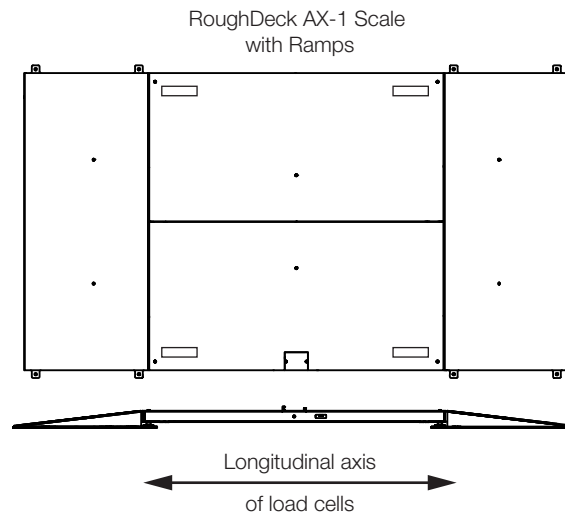

Figure 2-3. Align Ramps with Load Cells
1. Lift the ramps using the provided eye bolts and set ramps in place. Orient the ramps along the longitudinal axis of the load cells. See Figure 2-3.